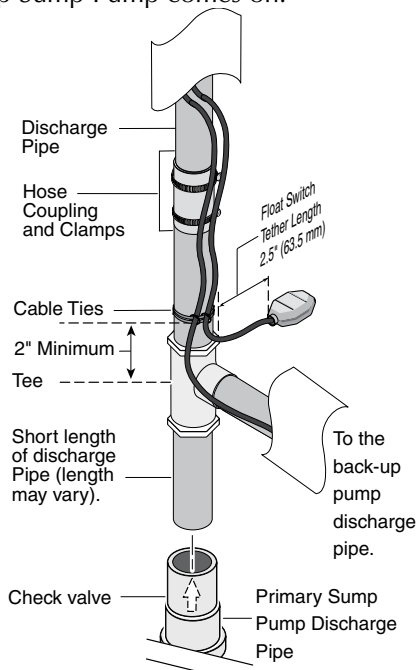

Figure 6 - Back-up pump float switch tether length and discharge pipe
10. Install a short length of pipe into the top of the check valve in the primary pump discharge. See Figure 6.
14. Mount the float switch assembly (Key No. 7) loosely to the discharge pipe with the cable ties (Key Nos. 7A & 7B). See Figure 6. Approximately 2.5" (63.5 mm) of cord length should be left between the float and the clamp. Do not tighten the cable ties. Adjustments may be needed later.
7. Mount the back-up pump float switch assembly (Key No. 7) loosely to the discharge pipe with the cable ties (Key Nos. 7A & 7B). See Figure 6, on Page 6. Approximately 2.5" (63.5 mm) of cord length should be left between the float and the clamp. Do not tighten the cable ties. Adjustments may be needed later.